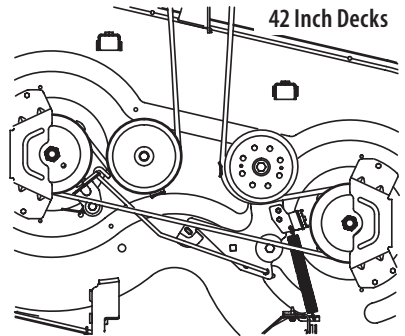
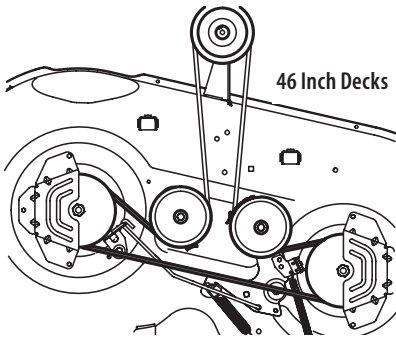
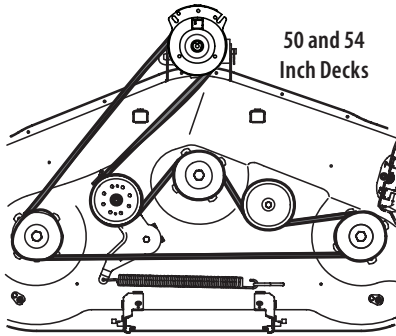

Figure 52
Figure 53
Figure 54
4. Route the new belt as shown in the applicable figure below. See Figure 52 (42 inch decks) and page 34 for Figure 53 on page 34 (46 inch decks) and Figure 54 on page 34 (50 and 54 inch decks).